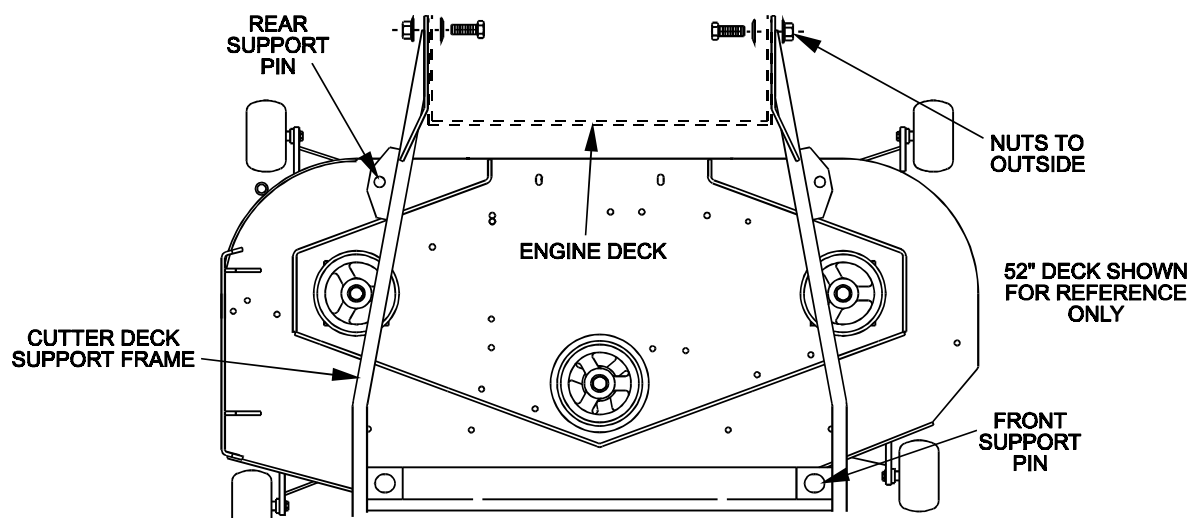

Fig. 2
- 3.5.2 Remove cutter deck support frame from cutter deck by removing the two hairpins and washers from the front deck support pins and by removing the two hairpins and washers from the rear deck support pins (See Figure 2).
Align and re-install the cutter deck support pins into the support frame. Install the two washers and hairpins onto the front support pins and the two hairpins and washers onto the rear support pins (See Figure 2).